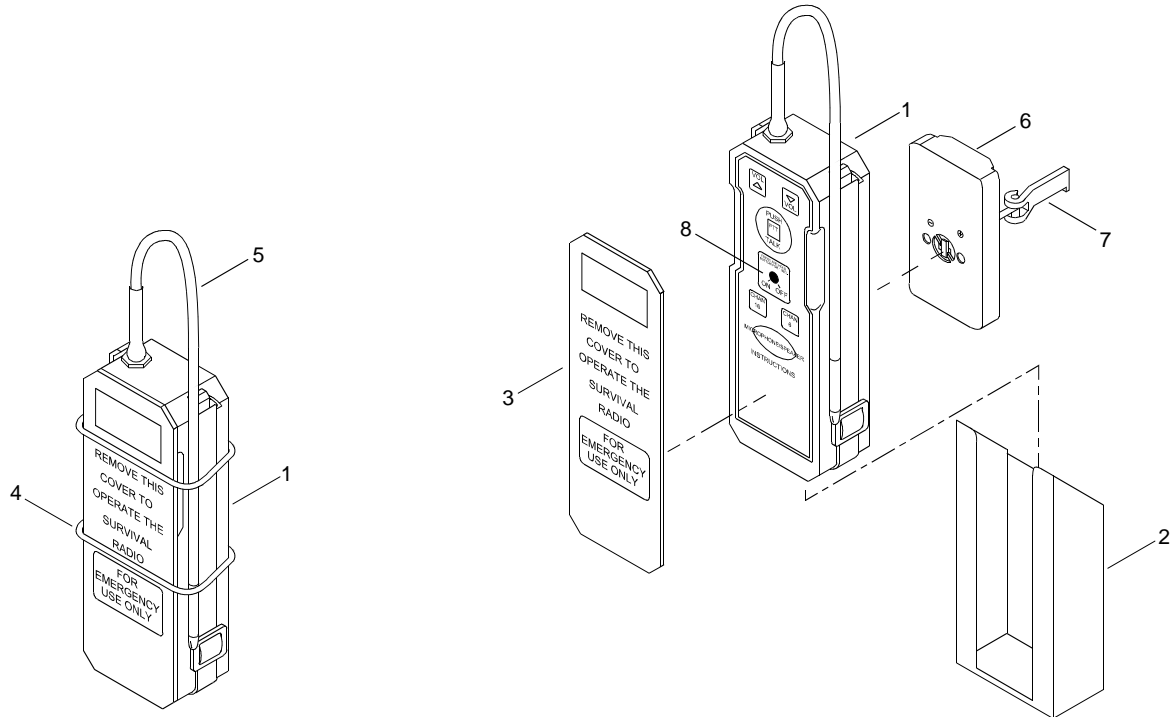

Figure 1. Lifeboat Radio (LBR)
2. Remove the control panel protective cover (figure 1, item 3).
- a. Slide o-rings (figure 1, item 4) down past end of antenna (figure 1, item 5) and lifeboat radio battery (figure 1, item 6).
- b. Remove the control panel protective cover (figure 1, item 3).
3. Remove the lifeboat radio battery (figure 1, item 6) from the lifeboat radio (figure 1, item 1).
4. Install spare lifeboat radio battery (figure 1, item 6).
- a. Insert spare lifeboat radio battery (figure 1, item 6) in upright position into lifeboat radio (figure 1, item 1).
- b. Activate lifeboat radio battery (figure 1, item 6) for testing.
{1} Grasp the activation indicator lever (figure 1, item 7) and lift to break the safety seal. Turn lever (figure 1, item 7) counterclockwise to open latch and seat the lifeboat radio battery (figure 1, item 6) in lifeboat radio (figure 1, item 1).
{2} Turn lever (figure 1, item 7) clockwise to lock lifeboat radio battery (figure 1, item 6) in place.
5. Press and hold ON/OFF button (figure 1, item 8) for 1 second.